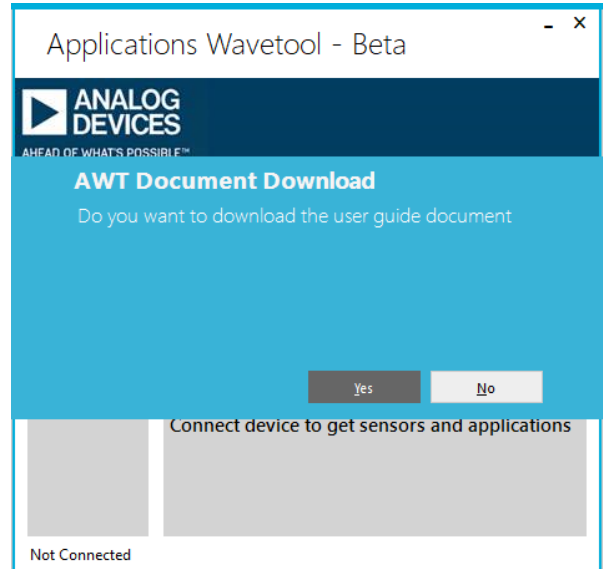

Figure 3. AWT Document Download Prompt
After installing the Wavetool Evaluation Software, download the AWT Document, a user manual for the Wavetool Evaluation Software (see Figure 3), which allows online access to the document as well as the hardware setup. The AWT Document contains videos that show the following:
2. If this is the first time opening the Wavetool Evaluation Software, users are prompted to download the AWT Document as shown in Figure 3.